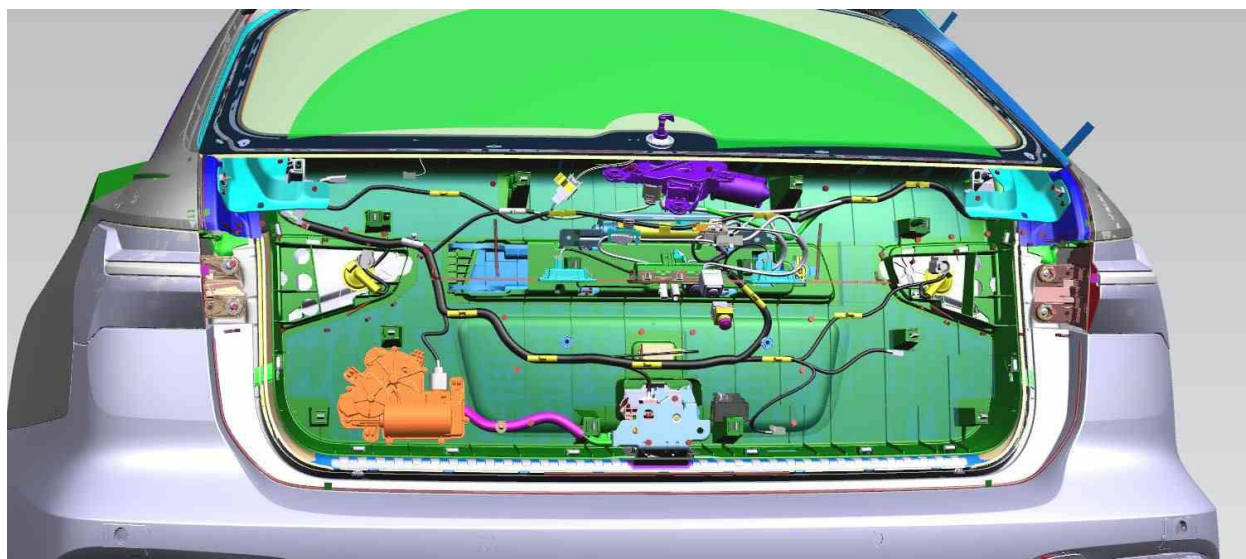

Figure 2. Carefully knock in the area of the closing assist motor. Its location varies and is model specific.
1. If it is not possible to open the power rear lid using the vehicle key, the interior/exterior buttons, or the emergency release, carefully knock with your hand on the rear lid in the area of the closing assist motor (Figure 2). The resulting vibrations should release the blockage within the closing assist motor.